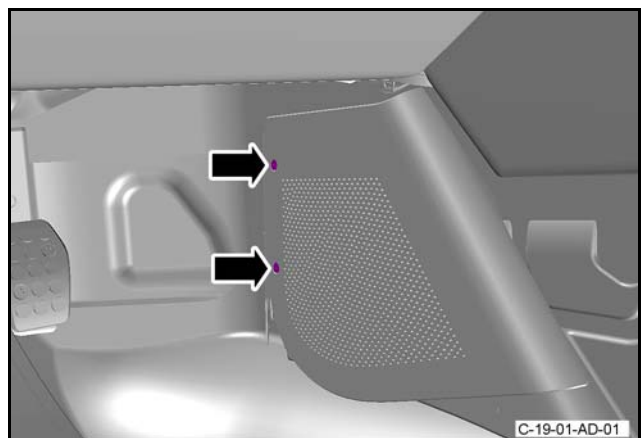

Figure 3
17. Remove the two screws that attach the grille for the driver's side front footwell speaker (footwell speaker) to the bracket (refer to Figure 3).